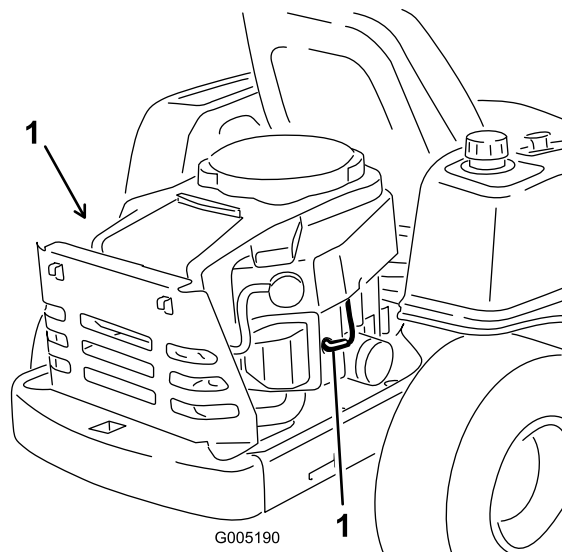

Figure 35
Pull the wire off of the spark plug(s) (Figure 35).
3. Push the wire onto the spark plug (Figure 35).